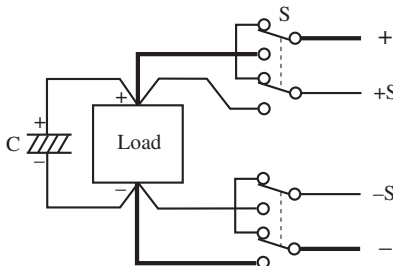

Fig.3-6 Power on/off using mechanical switches
- To turn on/off the power supplied to a load using a mechanical switch, provide additional switches between the sensing wires as shown in Fig.3-6 and turn on/off the power and remote sensing cables simultaneously. Be sure to turn off the OUTPUT switch or POWER switch before turning on/off the mechanical switch.
4. As necessary, connect an electrolytic capacitor (C) between 0.1  $\mu$ F to several hundred  $\mu$ F across the load terminals.
**⚠ CAUTION** • Use a capacitor (C) whose withstand voltage is greater than or equal to 120 % of the unit's rated voltage.
- If the wiring to a load is long, the phase shift caused by the inductance and capacitance of the wiring becomes non-negligible, thereby causing oscillation. In such case, the capacitor (C) prevents oscillation.
- If the load current changes suddenly to pulse form, the output voltage may increase due to the effects from the inductance component of the wiring. In such case, the capacitor (C) also prevents variations in output.